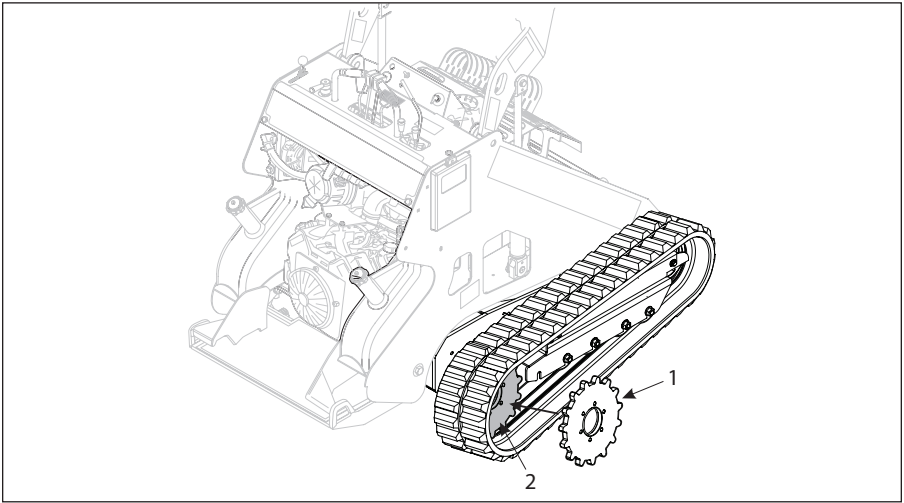

Figure 4-31 Insert Drive Sprocket into Track
13. Insert the drive sprocket (Item 1, Figure 4-31) into rear of the track (Item 2, Figure 4-31), between the track lugs and with the sprocket teeth in the track sprocket holes.